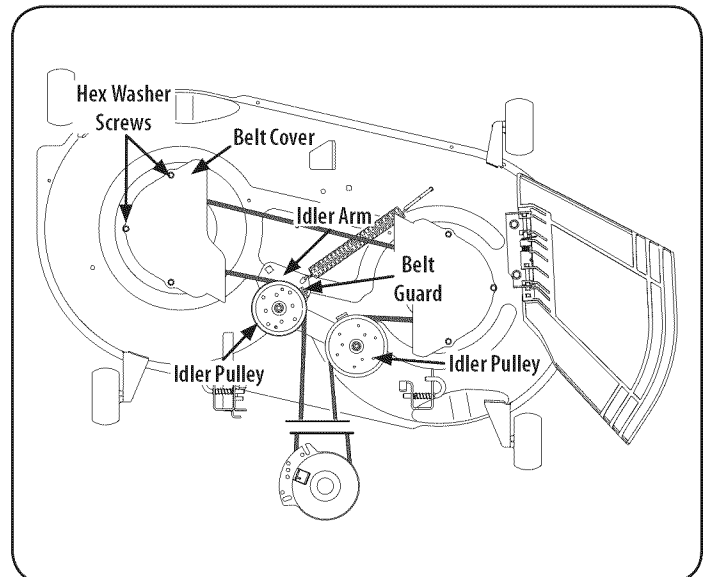

Figure 36
2. Remove the hex washer screws securing the belt covers to the deck. See Figure 36.
- Install the new belt around the spindle pulleys as shown and reinstall the belt covers. See Figure 36.